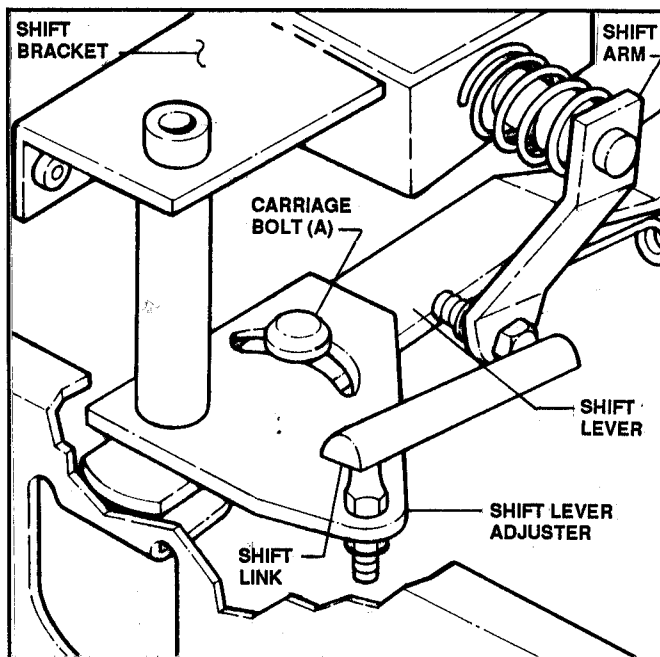

FIGURE 4.5
- Loosen Carriage Bolt (A) holding Shift Lever and Shift Lever Adjuster together. See Figure 4.5.